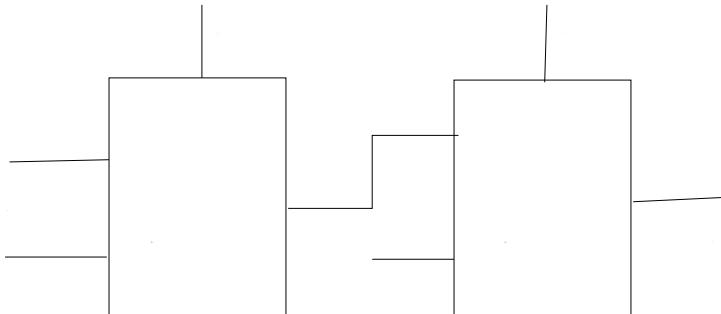

Fig. 4.17
31. The output F of the digital circuit shown in Fig. 4.17 can be written in the form(s) _____ (GATE IN 2022)